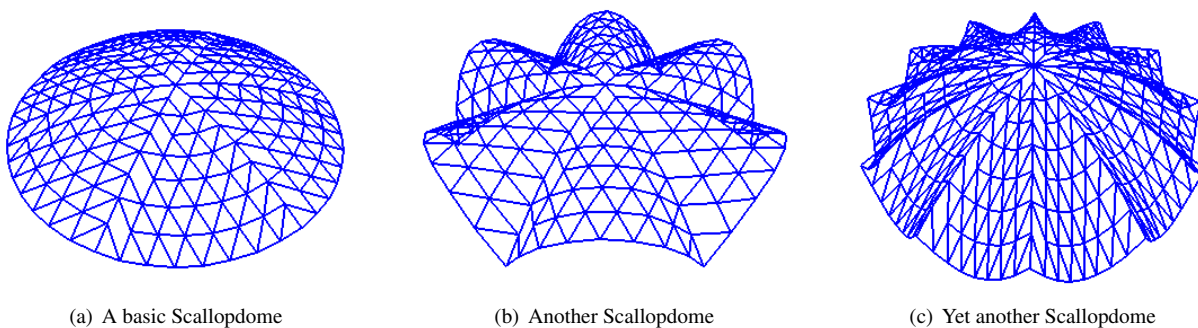

Figure 2.1: Same script, different domes
- Using a script makes it very easy to apply changes in the geometry: you simply modify the script and let pyFormex play it again. For instance, you can easily change an angle, the radius of a dome, the ratio f/l of an arc,... Using CAD, you would have to make an entirely new drawing! This is also illustrated in fig 2.1: these domes were all created with the same script, but with other values of the parameters.